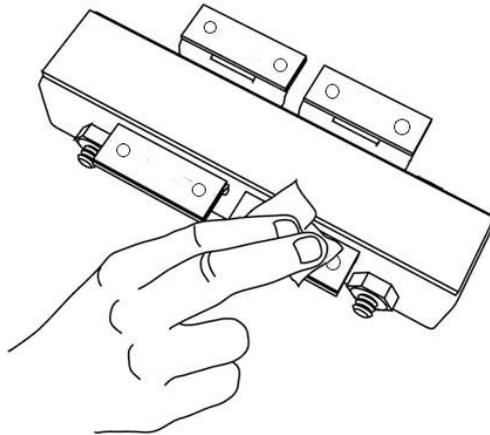

**Fig. 2: Marking the Center of the Steer Axle**
1. Locate and mark the center of the steer axle (Fig. 2)